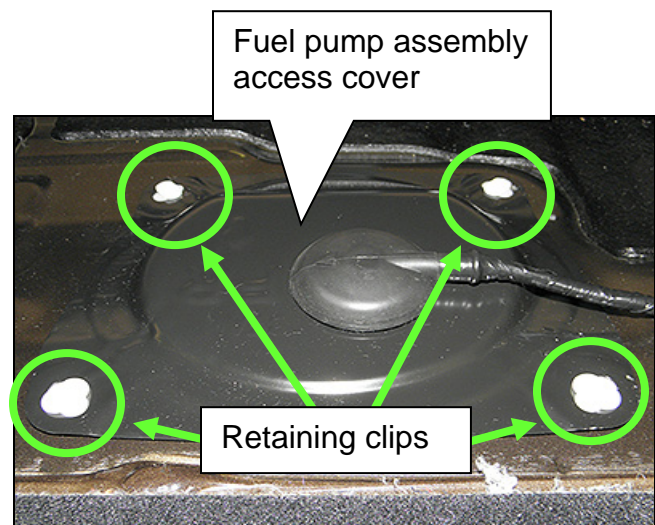

Figure 1
4. Remove the fuel pump inspection hole cover (Figure 1).